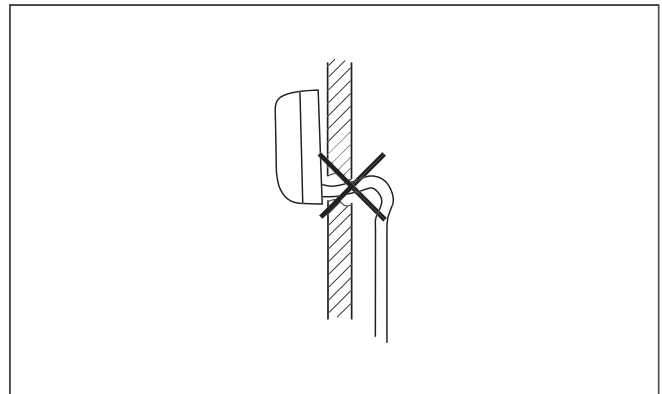

Fig. 9.1 Avoid ascending bends.
- Avoid installing the condensed water pipe with an ascending bend (see Figure 9.1).